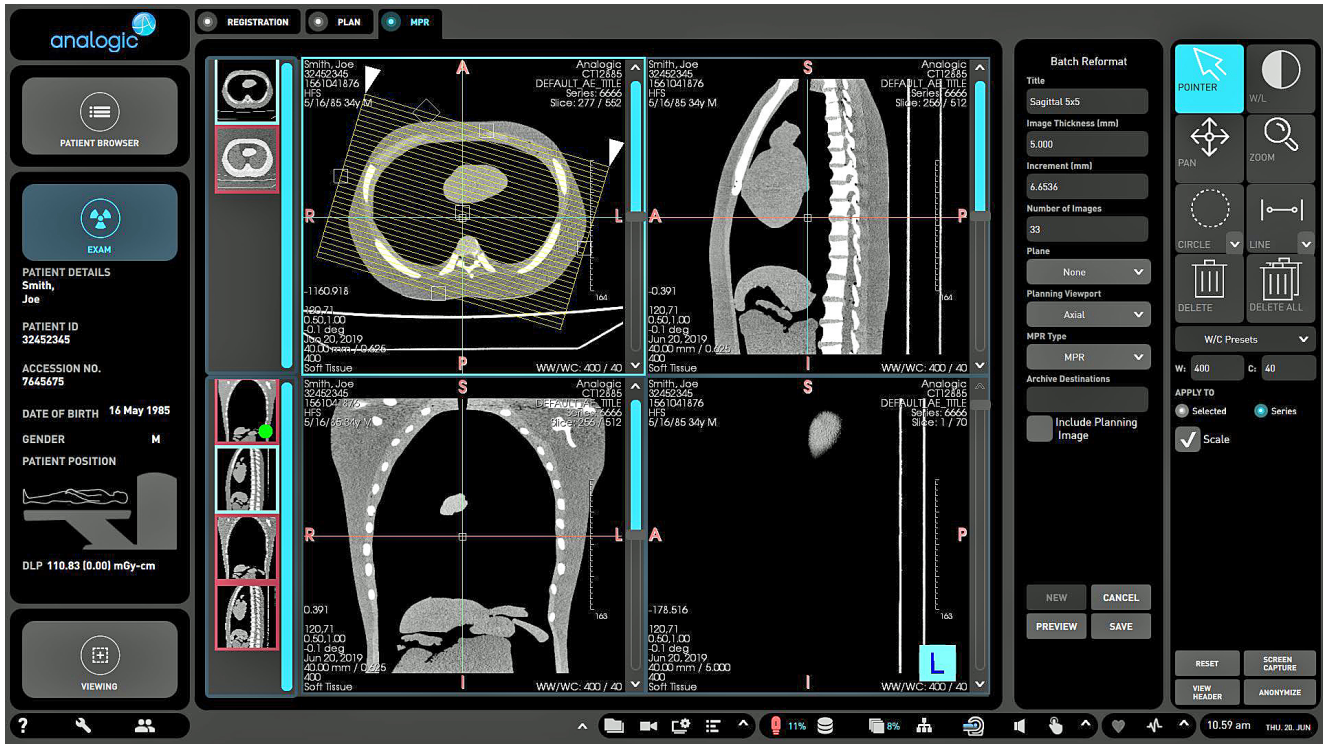

FIGURE 5.37 Changing the Range Box Area
3. You can change the Plane, Planning Viewport, and MPR Type (under Batch Reformat column.) (FIGURE 5.37)